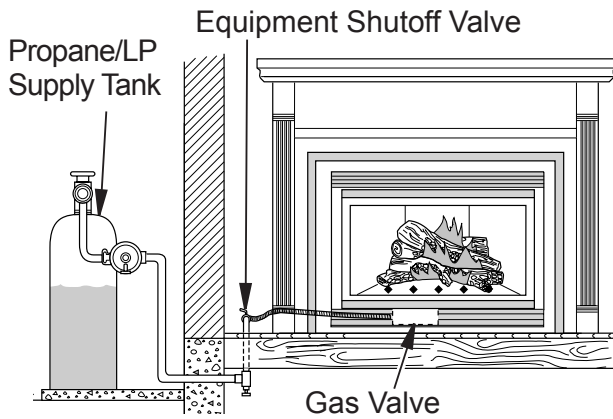
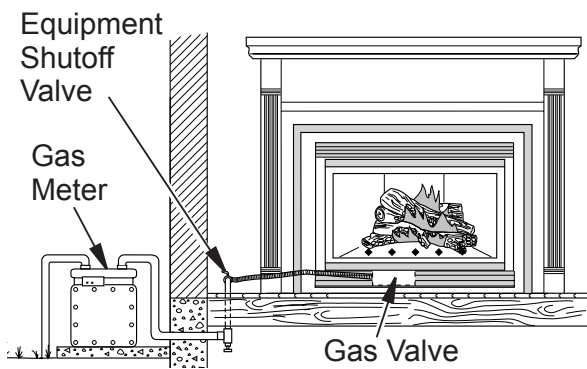

Figure 23 - Checking Gas Joints for Propane/LP Gas Fireplace
Figure 24 - Checking Gas Joints for Natural Gas Fireplace
3. Check all joints from propane/LP supply tank or gas meter to equipment shutoff valve (see Figure 23, page 15, for propane/LP or Figure 24, page 15, for natural gas). Apply noncorrosive leak detection fluid to all joints. Bubbles forming show a leak. Correct all leaks at once.
4. Check all joints from equipment shutoff valve to gas valve (see Figure 23, for propane/LP or Figure 24, for natural gas). Apply noncorrosive leak detection fluid to all joints. Bubbles forming show a leak. Correct all leaks at once.